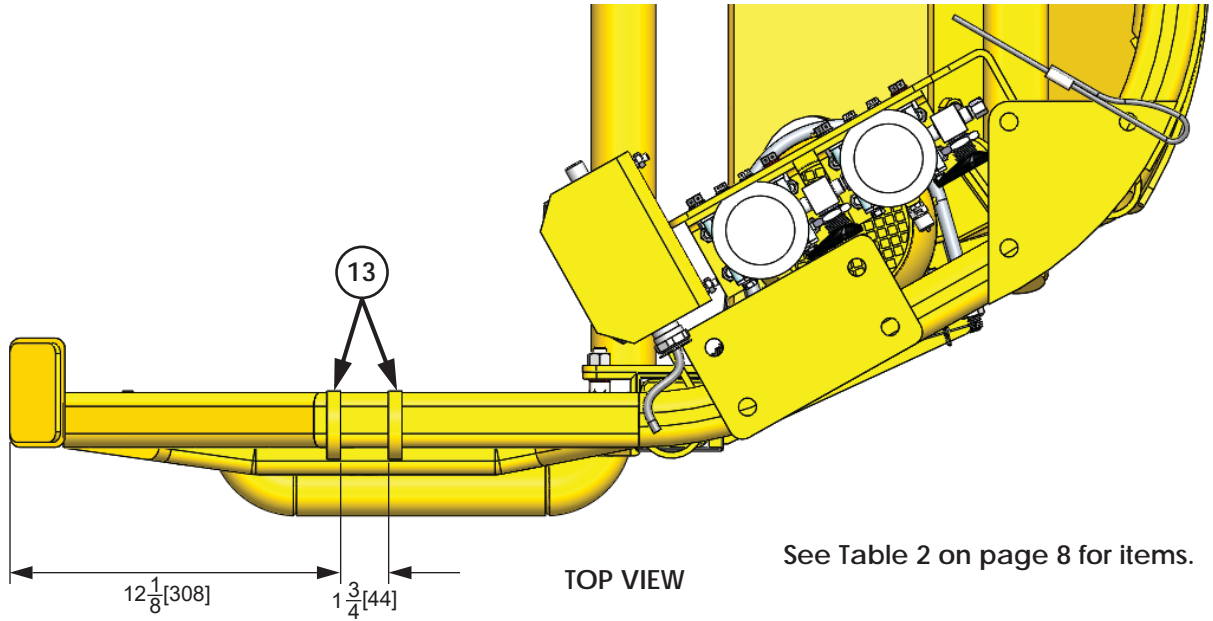

Figure 11: Top View for Step 3 on page 12.
3. Weld item 13 (DT33560) pad eyes, 2 each, to the top drive guard. Location is shown on Figure 11 on page 13.